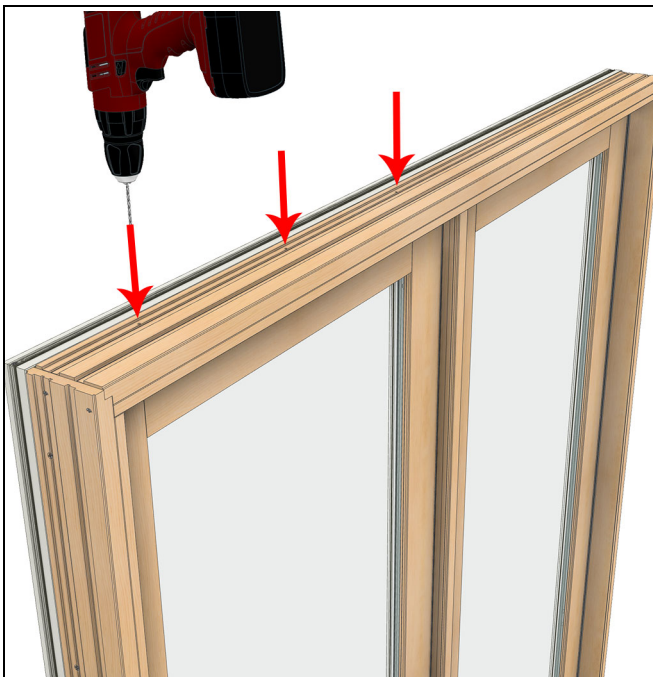

Figure 26
6. While holding the panel in place, pre-drill with a 1/8" drill bit. See Figure 26.